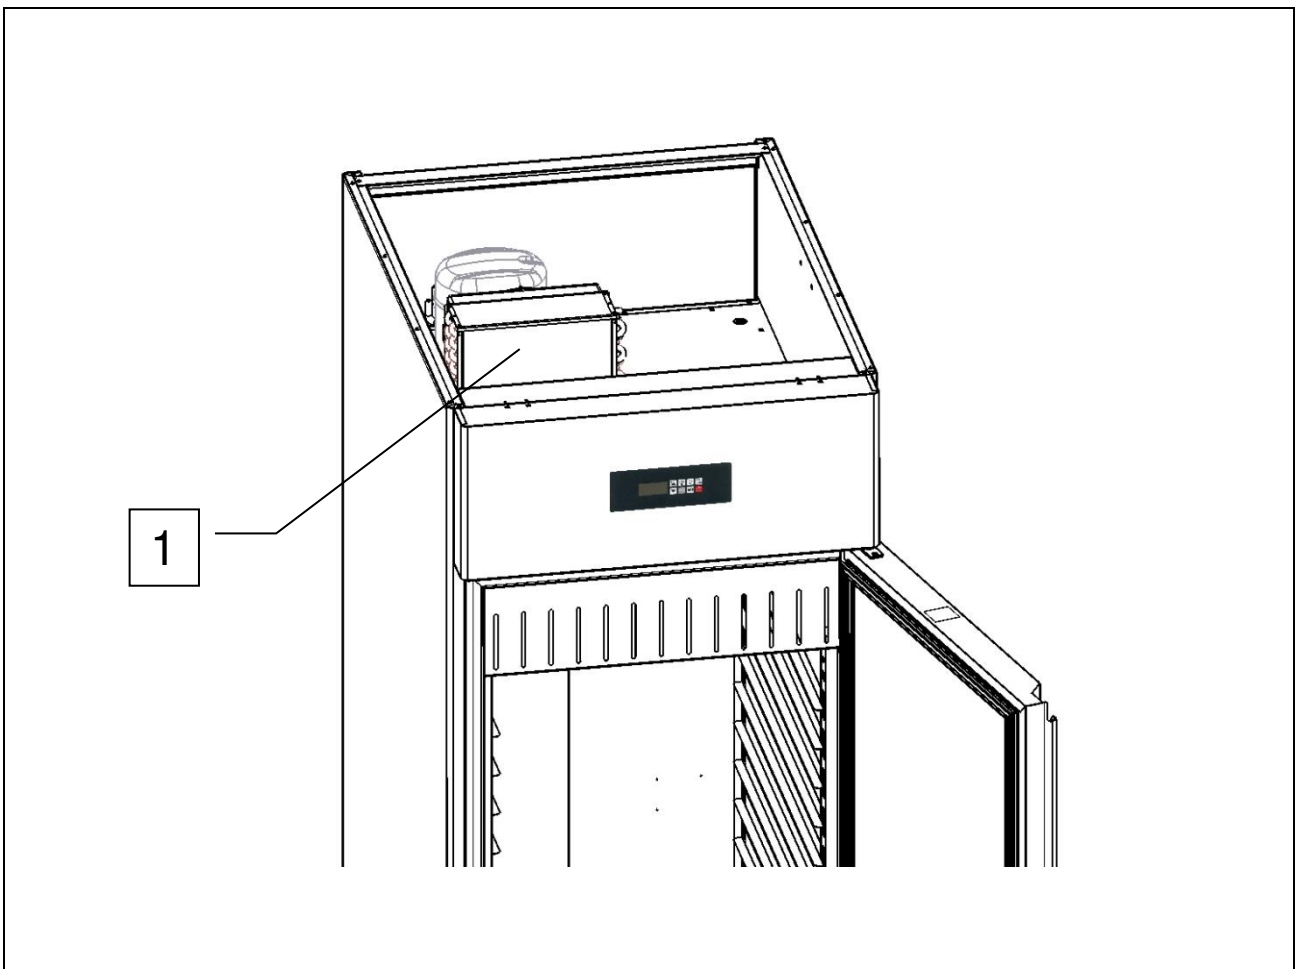

Fig. 9
For trouble-free efficient appliance operation, the air-cooled condenser (ref. 1 fig. 9) must be kept clean so that air circulates freely. Cleaning must be done once every 60 days at the most. Use non-metallic brushes to clean, ensuring that all the dust and fluff is removed from the fins. We recommend using a vacuum cleaner so as to avoid dust being dispersed into the environment. If there are greasy deposits, remove them using a small brush soaked in alcohol. **DO NOT SCRAPE THE SURFACES WITH SHARP POINTED OR ABRASIVE OBJECTS.**